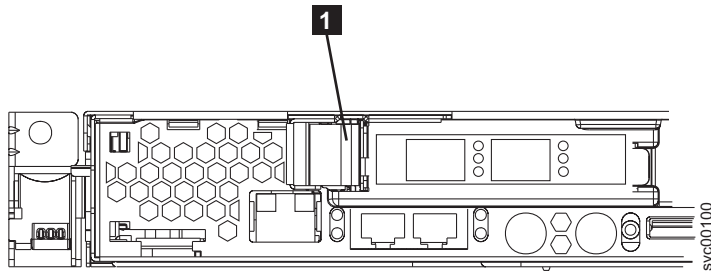

Figure 180. SAN Volume Controller 2145-8F2 or SAN Volume Controller 2145-8F4 PCI slot 1 card retainer
- a. Pull the blue PCI card retainer **1** from the rear of the node, shown in Figure 180 on page 196.